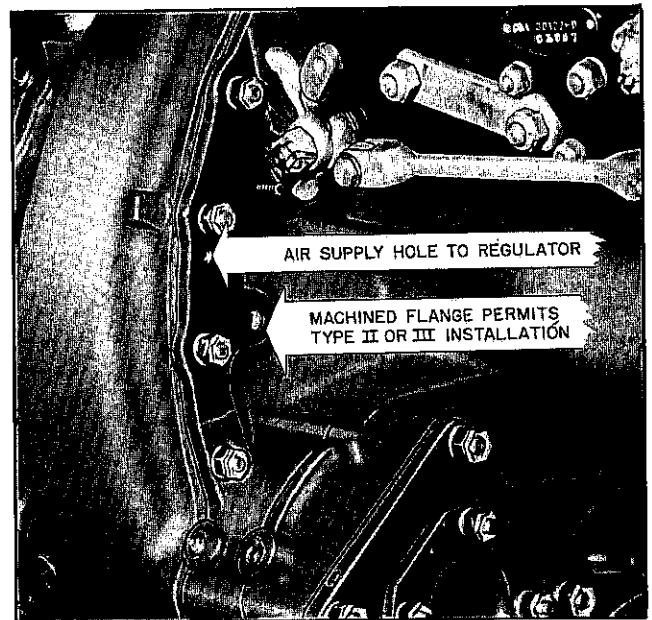

Figure 93—Supercharger Inlet Cover Flange which requires Type II or Type III Installation of Regulator.
(3) Type II Installation: In the Type II installation the regulator is mounted on a mounting pad machined on the upper left side of the rear face of the supercharger inlet cover. (See Figure 93.) It will have the same long oil pressure tube assembly as described for Type I. Engines equipped with this machined mounting pad contain a drilled passage leading from the supercharger scroll to the face of this mounting pad. This supercharger inlet cover air hole then matches up with an angular air hole in the regulator mounting flange, with the supercharger pressure conducted directly into the pressure bellows of the regulator unit. To summarize, the Type II regulator installation includes the following three special features: